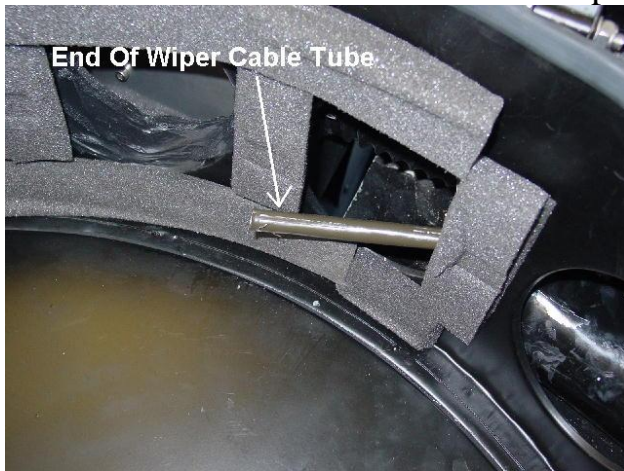

Fig. 13
8. Drop the tube and transmission assembly down out of the hole in the cowl. The end of the tube should protrude through the opening as in fig. 13.